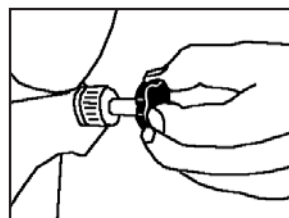

Figure 9
- Pull the A-frame Locking Pin located under the Left Gear Housing (See Figure 9) while squeezing the legs of the A-frame together.